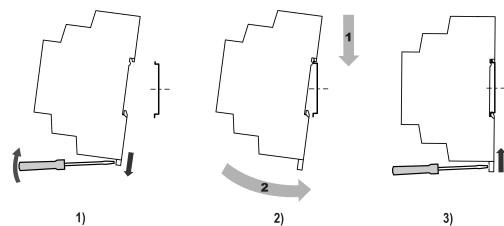

Fig. 2
1. Place the device on a DIN rail as shown in Fig. 2.